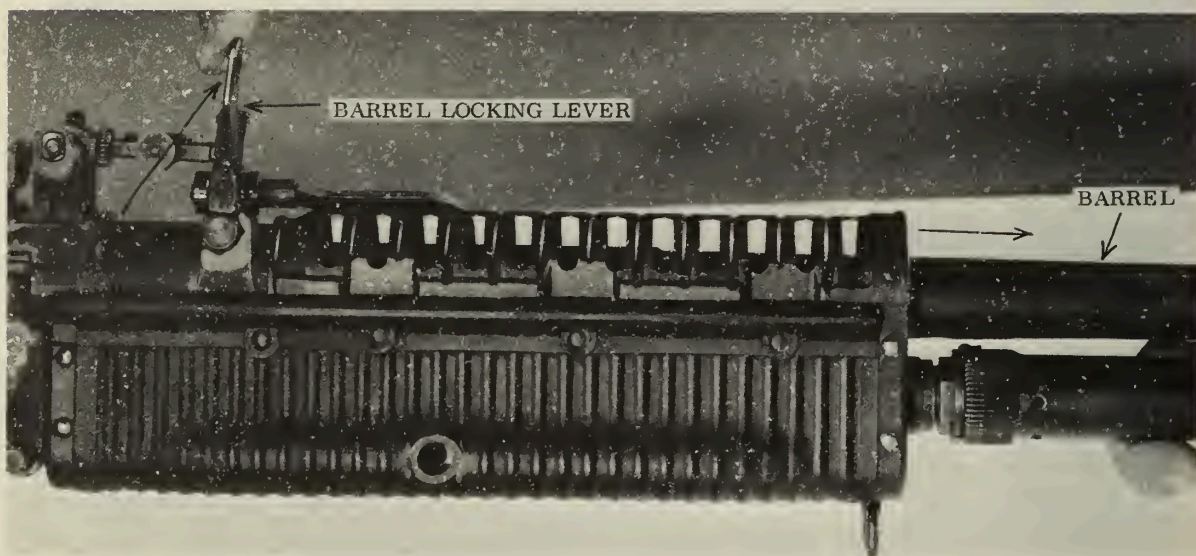

Figure 14. --Removing the Barrel Group.
(1) Raise the barrel locking lever to the vertical position. (See fig. 14.)
(2) Grasp the barrel and pull it from the receiver.